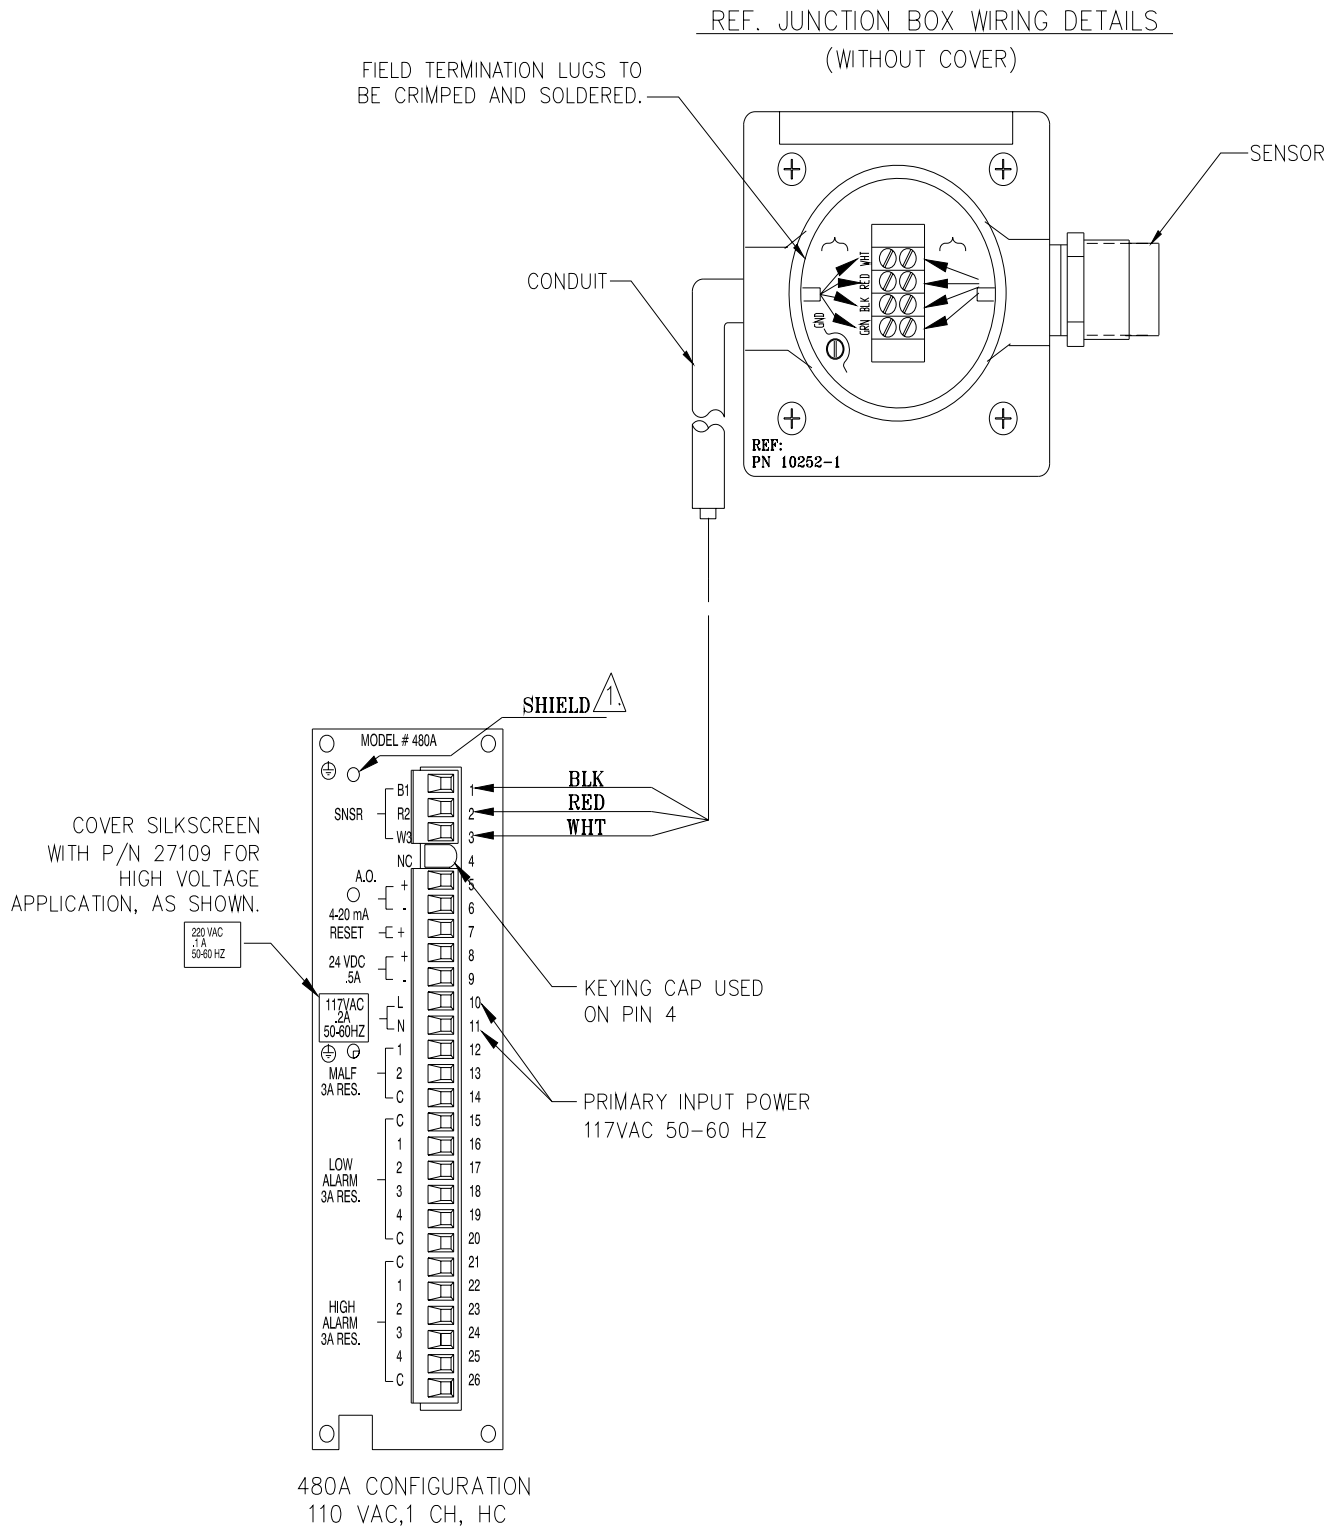

Figure 3: Outline Drawing & Rear Terminal Connections (REF: 20659)
3. Connect the cable so that the terminal color at the sensor housing matches the terminal color at the controller as follows (Figure 3):
The Low and High alarm contacts for customer use are DPDT (double pole, double throw) and are rated 4 amps at 115 VAC, resistive. The Fault alarm contact is SPDT (single pole, double throw), 4 amps at 115 VAC, resistive. These contacts are brought out to terminals on the rear of the controller as follows (Figure 3):